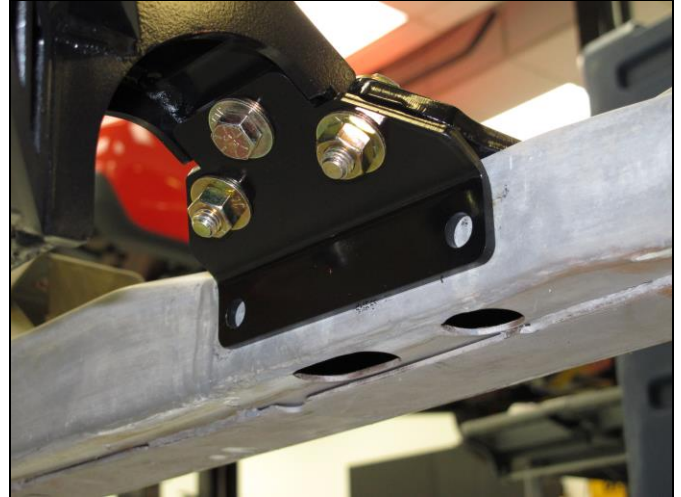

Figure 2
8. Loosely attach the remaining upper and lower anchor brackets to the left side of the crossmember by installing the remaining 7/16 x 1" bolts from the bottom side of the crossmember and the remaining 7/16 x 1.5" bolts from the top of the crossmember. Install two supplied 7/16 nuts onto the bottom of the 7/16 x 1.5" bolts. Refer to **Figure 2** for clarification.